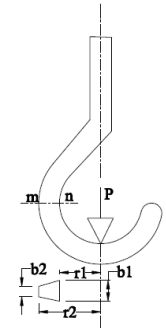

Fig.6
4. A steel crane hook carries a load  $P = 1500$  kg as shown in Fig.6. The cross section  $mn$  of the hook is trapezoidal as shown in the figure. Find the total stresses  $\sigma_m$  and  $\sigma_n$  at points  $m$  and  $n$ . The following numerical data are given:  $b_1 = 5$  cm,  $b_2 = 2$  cm,  $r_1 = 4$  cm,  $r_2 = 12$ cm.